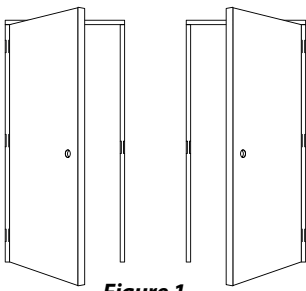

Figure 1
- 1) **Determine door handing** - Standing on the side you want the door to swing towards, establish whether hinges will be on left or right side of door (figure 1).